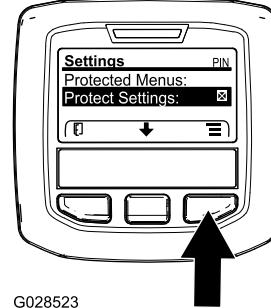

Figure 12
1. From the MAIN MENU, use the center button to scroll down to the SETTINGS MENU and press the right button (Figure 12).